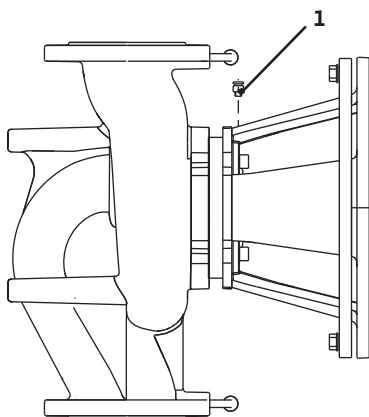

Fig. 35: Bleed valve
- Bleed the pumps by releasing the bleed valves (Fig. 35, Item 1). Dry running destroys the mechanical seal of the pump. The differential pressure sensor must not be bled (risk of destruction).